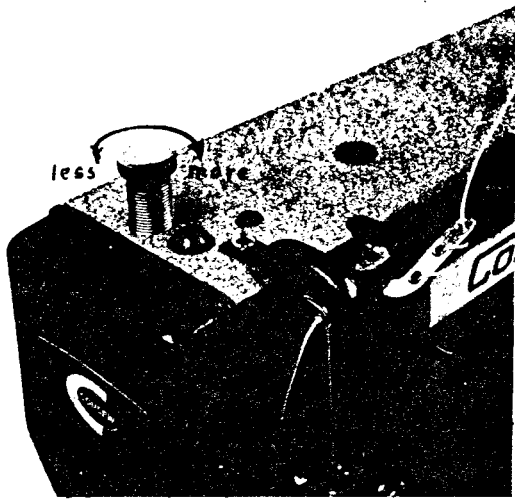

FIG.12
The pressure of the presser foot on the material is regulated by the Regulator Screw (R) (Fig. 12) on the of the machine. Turn this regulator to the left decrease it. Do not employ more foot pressure than is required to feed the material properly.